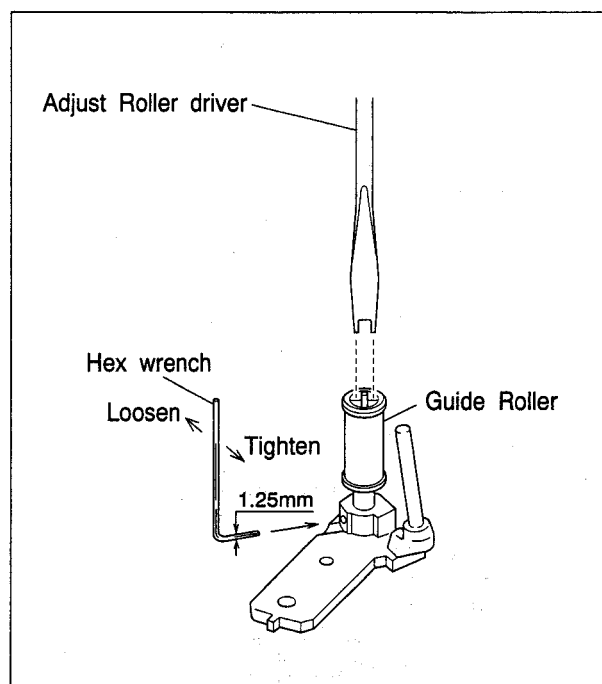
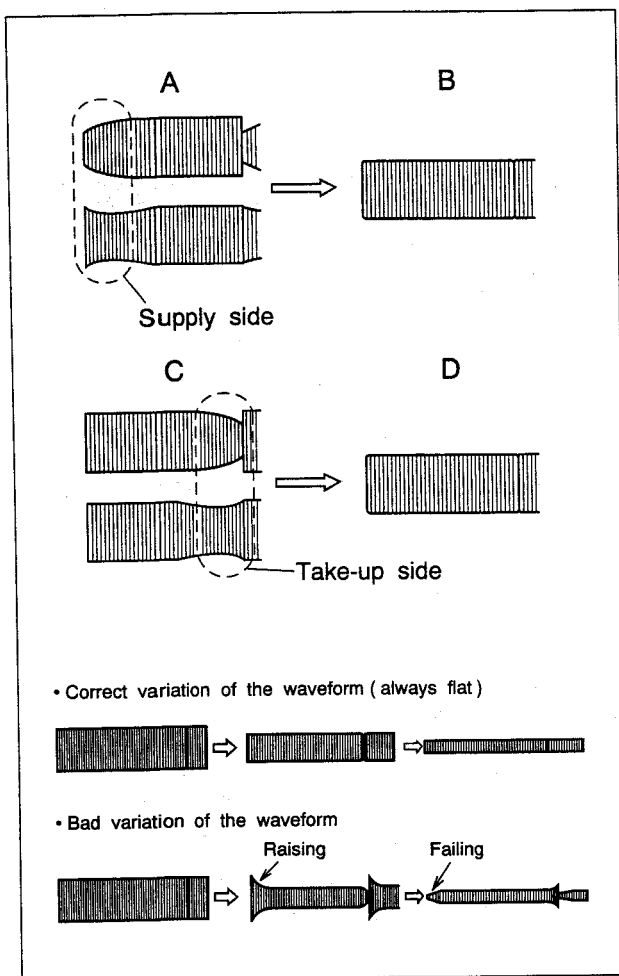
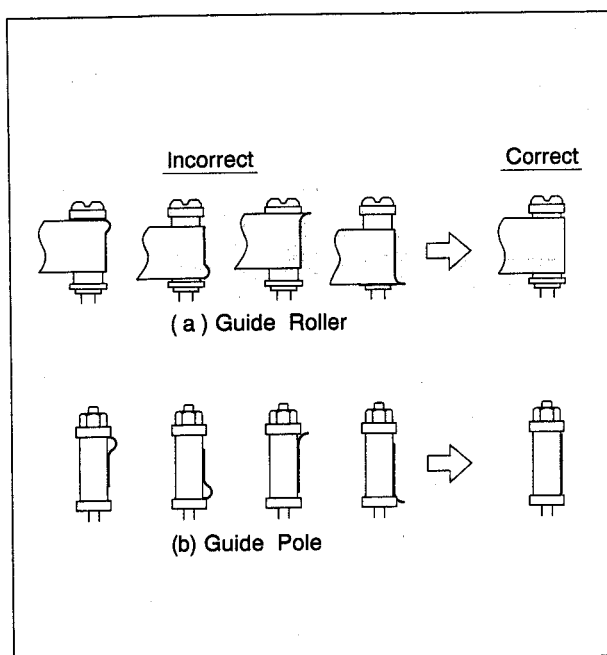

Fig. 2-7-2
Fig. 2-7-3
Fig. 2-7-4
- (6) When the FM waveform does not remain flat during this process,first slightly loosen the set screw located at the bottom of the guide rollers.Using the guide roller adjustment tool (Roller driver),adjust the supply and take-up guide rollers (refer to Fig.2-7-2) to obtain the correct waveform as indicated in Fig.2-7-3.
- (7) By pressing the TV PROG buttons several times,vary the FM waveform output from maximum to minimum (and vice versa) gradually,and confirm that the variation proceeds in flat shape, as shown in Fig.2-7-3.
- (8) Next playback the LP stairstep portion of the alignment tape [MHPE-L] and adjust the tracking control from maximum to minimum the FM waveform,confirm that FM waveform variation is always flat.
- (9) Record the signal and play it back in both of the SP and LP mode,confirm that the FM waveform is flat in both mode.
- (10) After adjustments,tighten the set screw of the guide rollers.
- (11) Confirm that the tape wrinkling does not occur at the roller upper or lower limits as indicated in Fig.2-7-4.